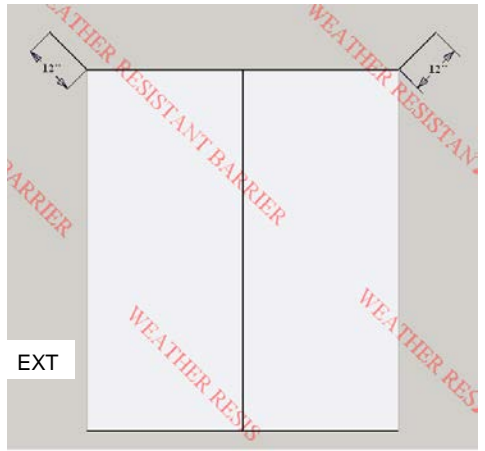

Fig. 2
- F) Cut the weather-resistant barrier (WRB) in a "Modified I" pattern. (Fig. 2)